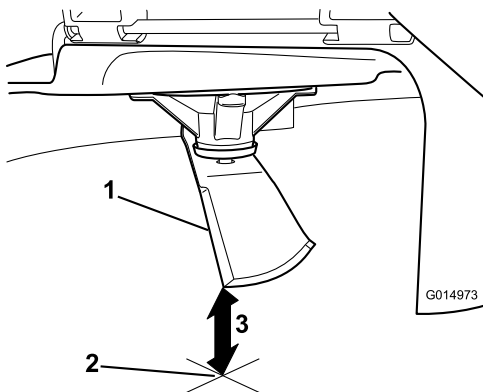

Figure 104
3. Measure from the tip of the blade to the flat surface (Figure 104).